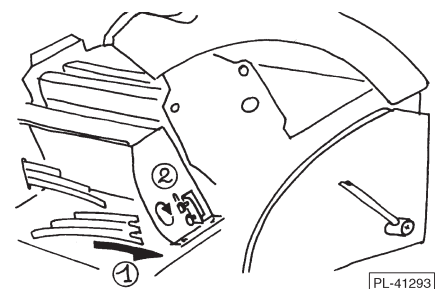

Fig. 16
- Reassemble the Front Flaps (Fig. 16):